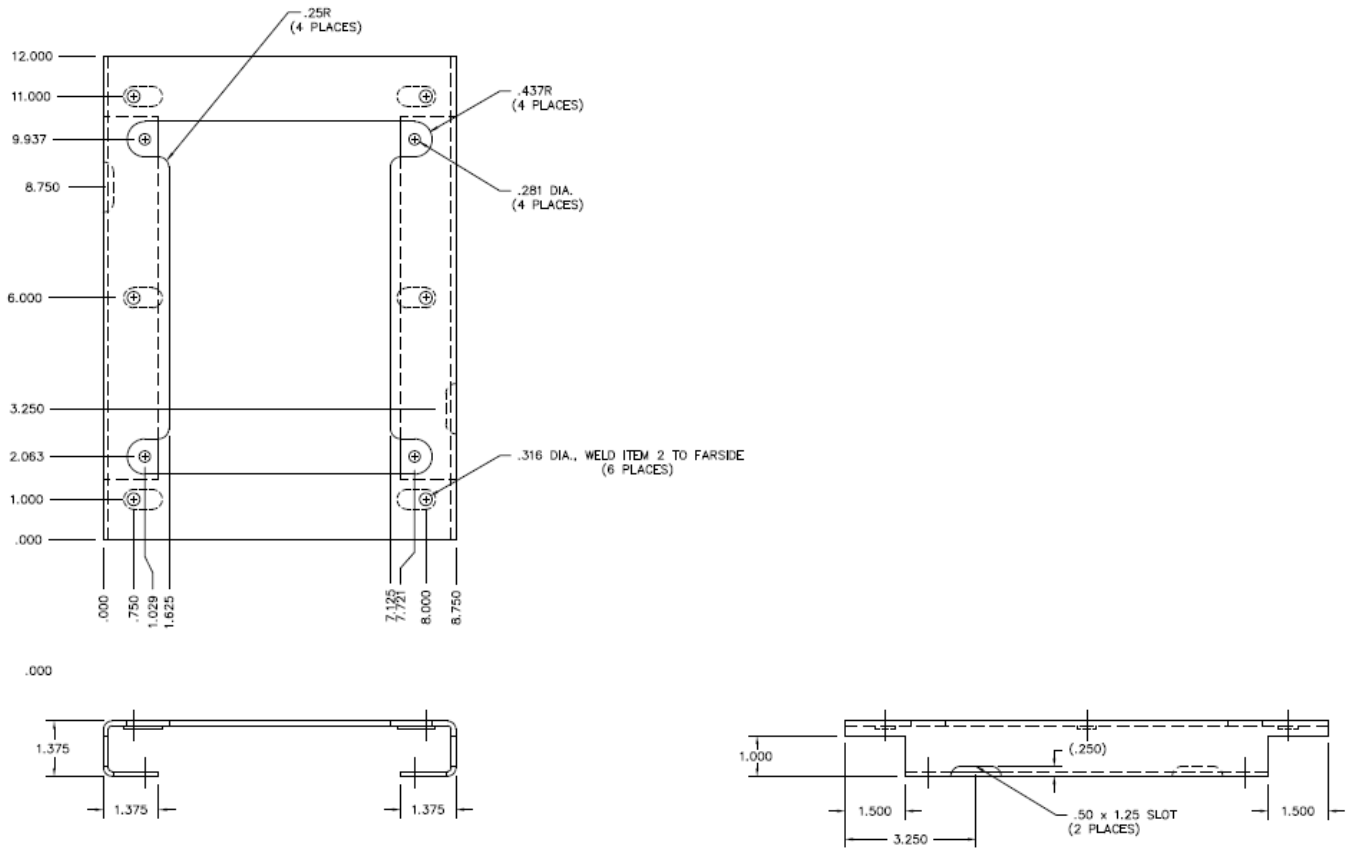

Figure 5. Adaptor Bracket
**Adapter Bracket:** The 9440301048 adapter bracket enables easy updates, providing access for projection mounting the DECS-250 to existing DECS-15 mounting hole locations. See Figure 5 for the bracket outline.